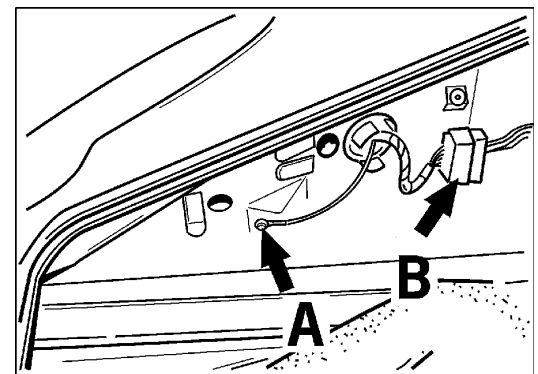

Figure 4
2.7 Route and connect the brown wire (1.5 mm²) of the Litronic harness to the lug of ground point 1. (Figure 4, Item A)
3.1 Detach and disconnect connector X1/2 on right wall of the luggage compartment. (Black 21-pin connector, Figure 4, Item B)